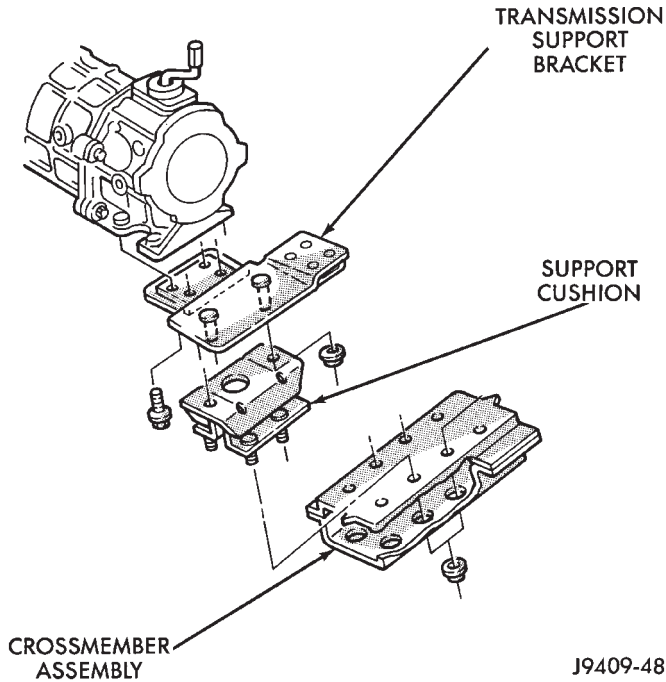
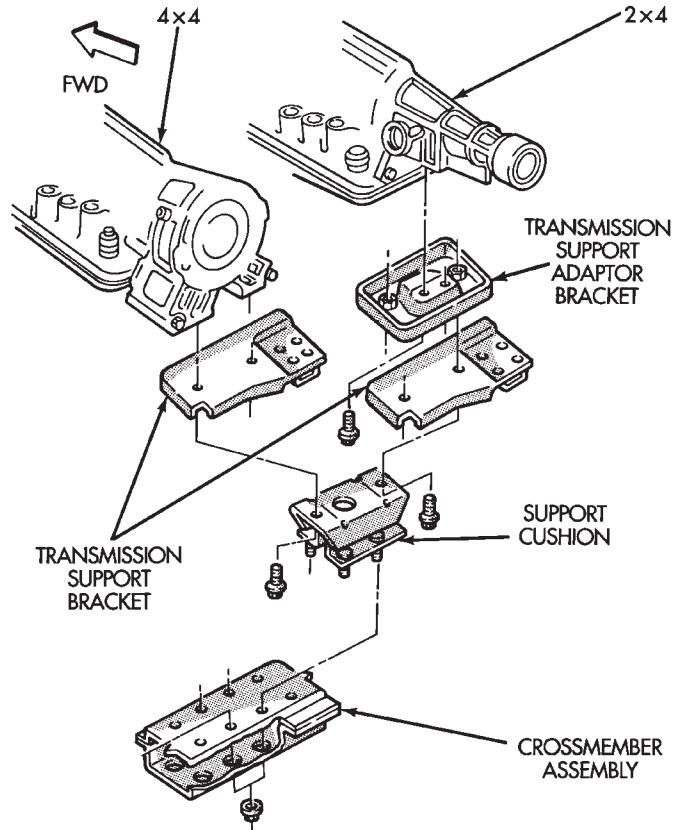

Fig. 27 Rear Mount(Manual Transmission)
Fig. 28 Rear Mount(Automatic Transmission)
- (1) Disconnect negative cable from battery.
- (2) Raise the vehicle and support the transmission.
- (3) Remove the nuts holding the support cushion to the crossmember (Fig. 27) (Fig. 28). Remove the crossmember.
(Fig. 27)
b. On 2WD vehicles, remove the bolts holding the transmission support adaptor bracket to the transmission (Fig. 28). Remove the adaptor bracket.